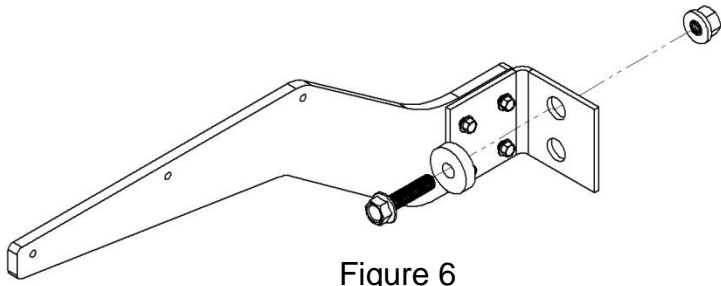

Figure 6
- D. Install center bracket assembly (Figure 6).